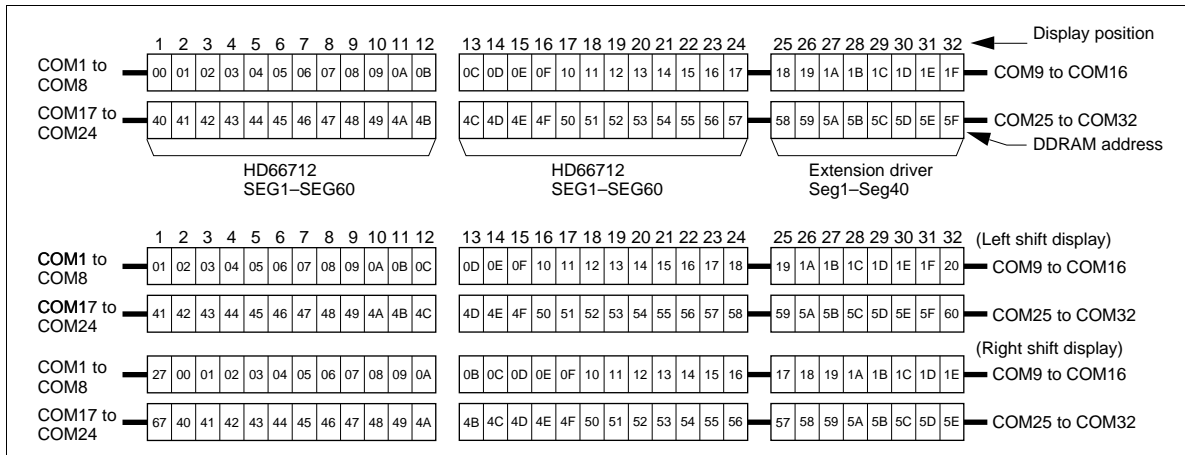

Figure 7 2-Line by 32 Character Display (5-Dot Font Width)
- Case 2: Figure 7 shows the case where the EXT pin is fixed high and the HD66712 and the 40-output extension driver are used to extend the number of display characters to 32 5-dot font-width characters.